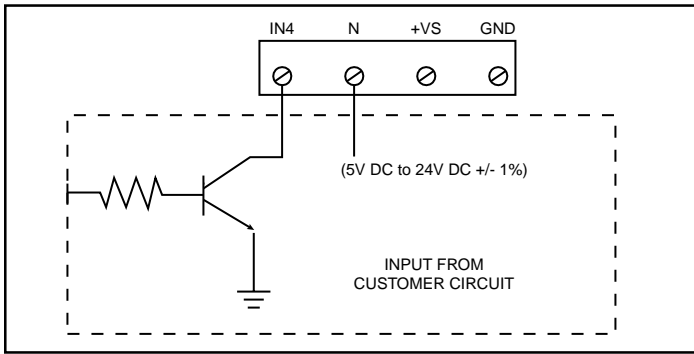
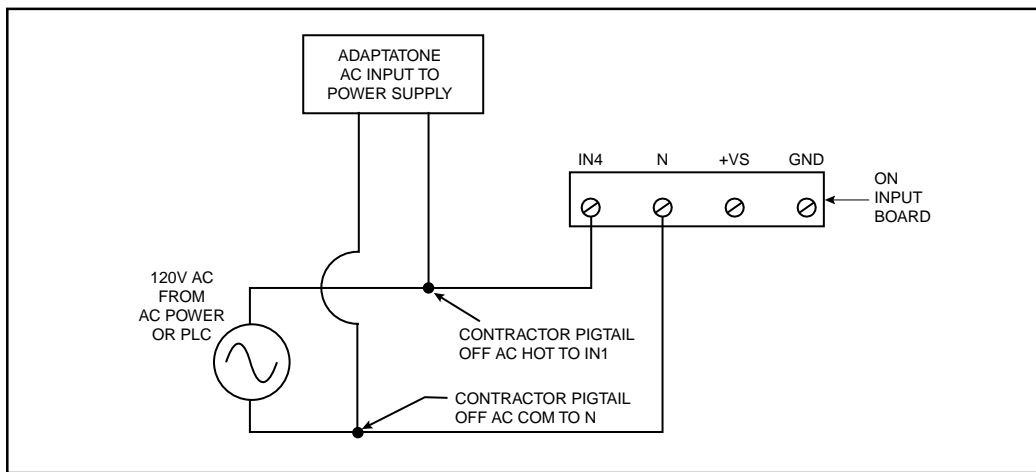

Figure 6. Wiring to 24V Input Board with an Open Collector Transistor
Figure 12. 120V AC Strapped Input, 120V Input Board
- b. Select the appropriate method for wiring to the input board from Figures 6 - 11 for models with 24V input board or Figures 12 - 14 for models with 120V input board.